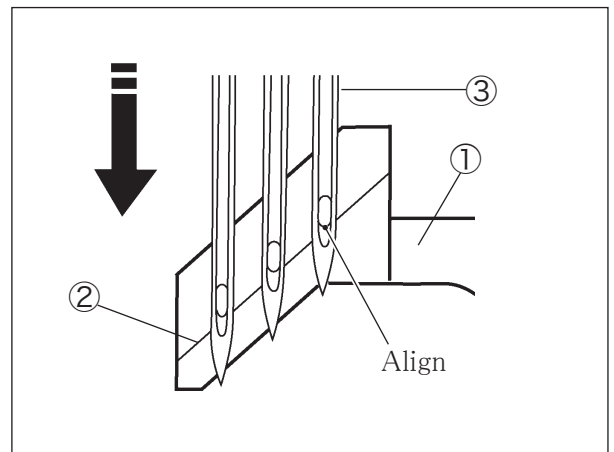

Fig. 6-25 VE2711-1-8
For VE2711-1-8, when the needle bar is at the lowest point, align the line ② of the needle guard (rear) ① with the bottom of the needle eye of the right needle ③. (Fig. 6-25)